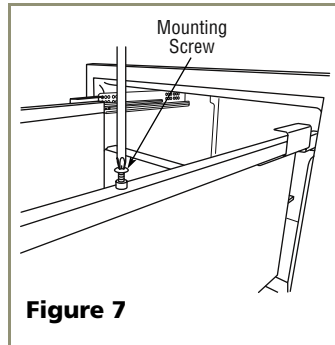

Figure 7
3. Remove the mounting screws. See **Figure 7**.
2. Re-install the rails' mounting screws. See **Figure 7** on **Page 4**.